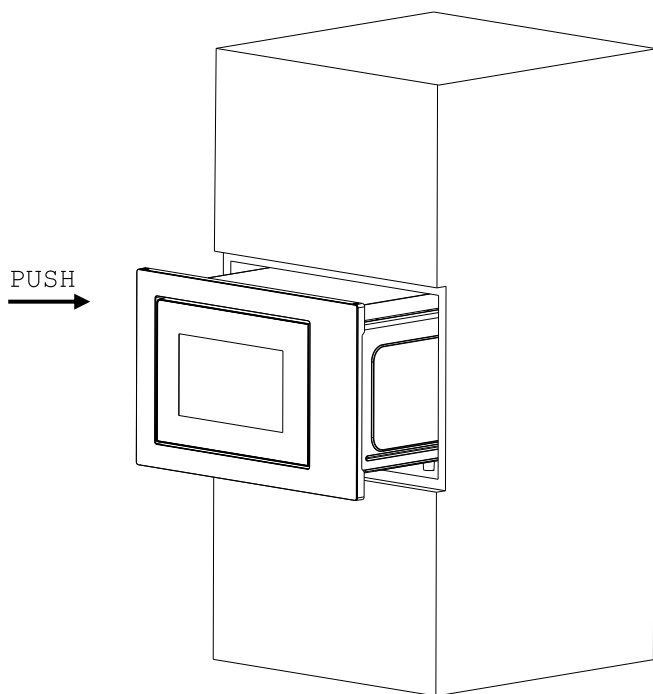

Fig. 1
a) Put the microwave oven into built-in cabinet and push it forward to the end. (Fig. 1)